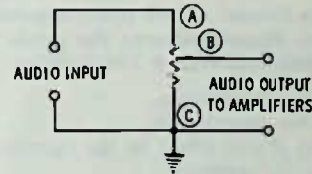

Fig. 2-19. Volume-control circuit.
Most variable resistors used in radios are potentiometers, that is, they pick off a voltage between 0 and the full available voltage. Fig. 2-19, for example, shows a volume-control circuit. Note that the resistance between (A) and (C) does not change. Movable arm (B) simply moves up or down between (A) and (C) selecting the amount of voltage (signal) desired between the maximum signal at point (A) and zero signal at point (C).